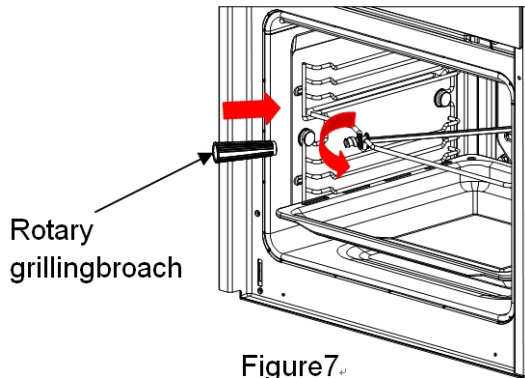

Figure7.
6. When the cooking is complete, open the oven door, connect the rotary grilling broach handle and remove the food (figure 7).